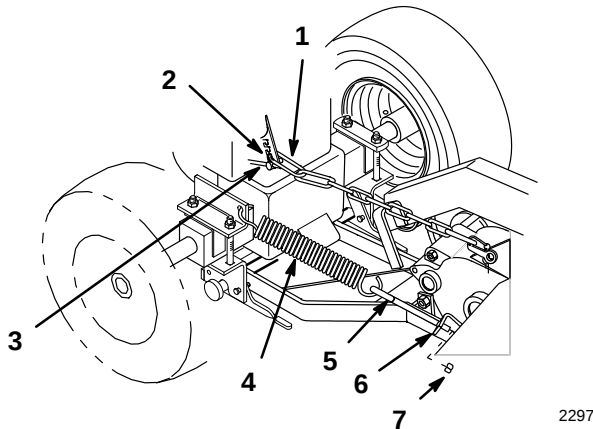

Figure 14
5. Remove trunnion and slide long link of lift chain under attachment lift arm and hook into lower notch (Fig. 14). Install trunnion into bottom hole of lift lever.
7. Hook lift assist spring through left hitch angle mounting plate and eye bolt. Secure eye bolt through bracket with 3/8" lock nut (Fig. 14). Adjust lock nut so there is light spring tension in the fully raised position.